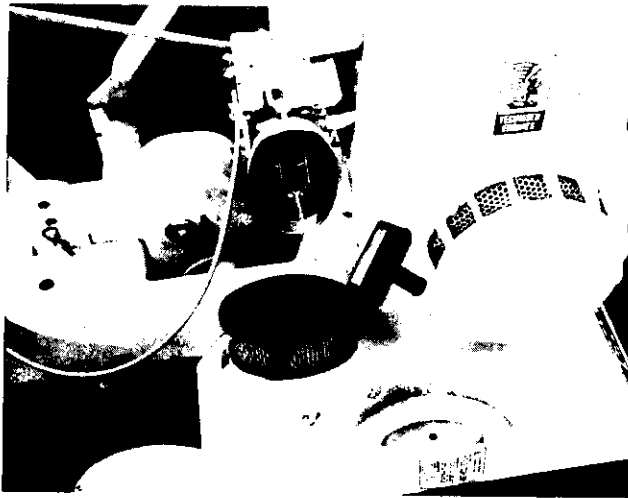

FIGURE 35.
- D. Replace filter and cover making sure filter is seated correctly between base and cover. Tighten wing nut securely. See figure 35.